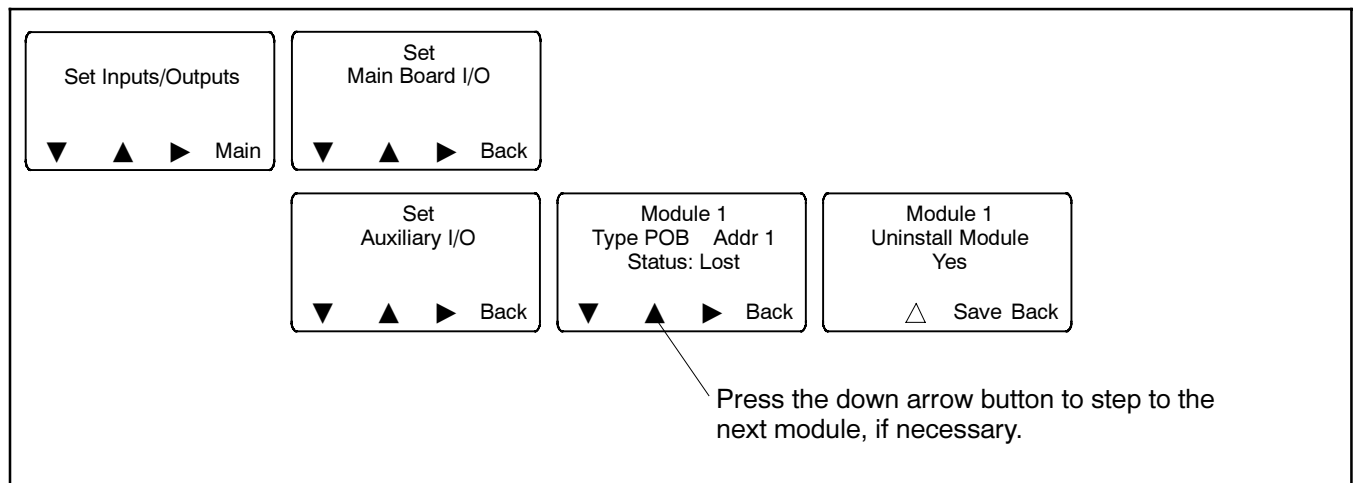

Figure 2-16 Uninstall Module
3. Navigate to the Set Input/Outputs>Set Aux I/O screen to check that the controller has recognized the connected modules. See Figure 2-16.
5. Press the down arrow to step to the Set Inputs/Outputs screen. See Figure 2-16.
6. Navigate to the Set Auxiliary I/O screen. See Figure 2-16. Press the right arrow button to see the status of module 1. Press the down arrow to step to the next module, if necessary, until the screen shows Status: Lost.
10. Navigate to the Set Auxiliary I/O screen to check the status and settings for the new module. See Figure 2-16. Press the right arrow button to see the status of module 1. Press the down arrow to step to the next module, if necessary,